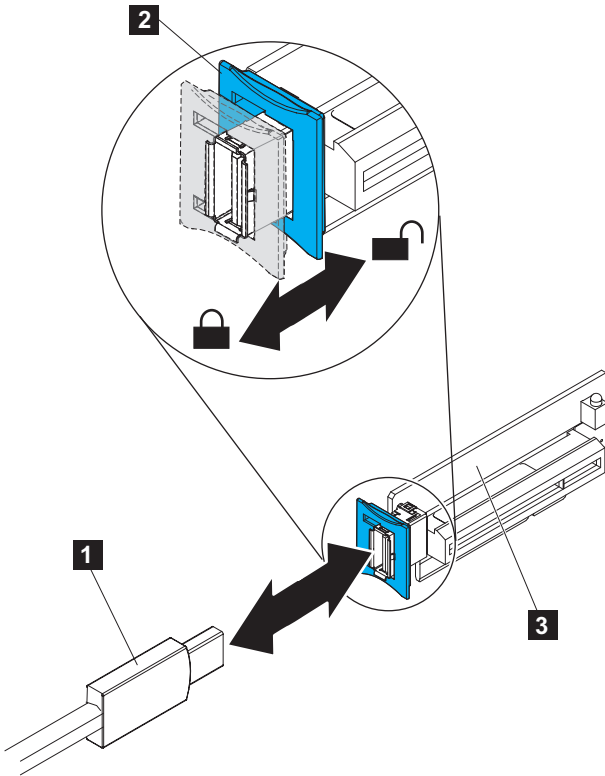

Figure 76. USB service-controller cable connector on the USB riser card
- c. Grasp the blue lockbar (**2** in Figure 76 on page 90) and slide it toward the USB riser-card assembly (**3**) to the unlock position and remove the USB cable (**1**) from the connector.
- b. Align the USB service-controller cable (**1** in Figure 76) with the connector on the USB riser-card assembly (**3**) and push it into the connector until it is firmly seated.